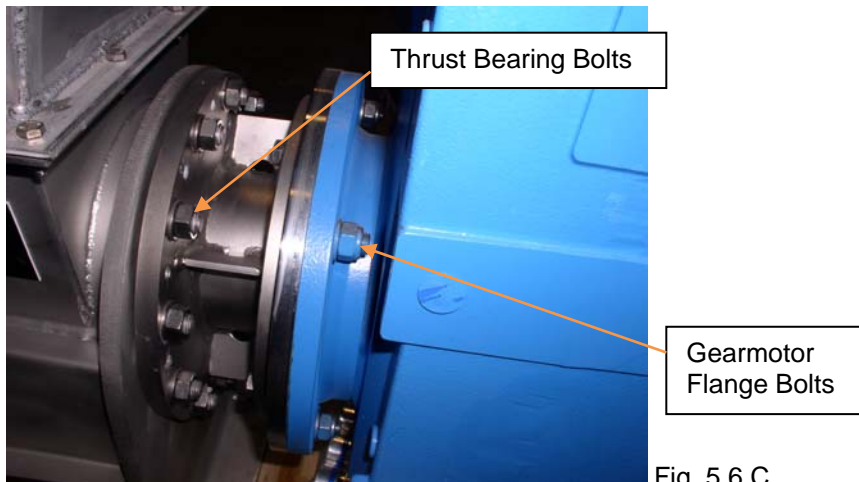

Fig. 5.6.C
- Remove the flange bolts that hold the gearmotor to the thrust bearing unit. (See Fig. 5.6.C).
- Remove the flange bolts that hold the thrust bearing unit to the wash press housing. (See Figure 5.6.C).